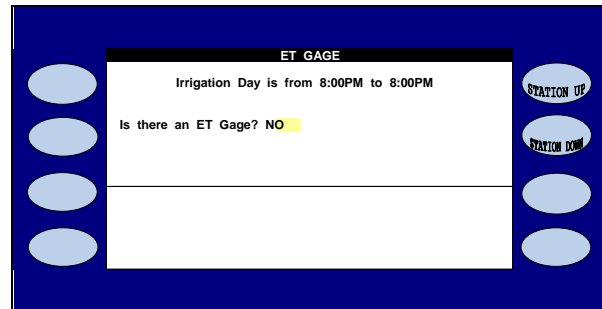

Figure 4
-  Press the blue **ARROW** keys to move the cursor to the **IS THERE AN ET GAGE?** (Figure 4).